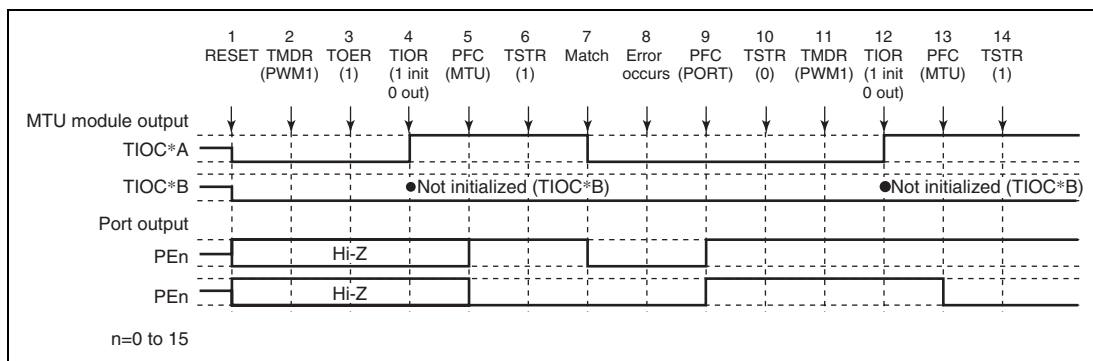

**Figure 11.92 Error Occurrence in PWM Mode 1, Recovery in PWM Mode 1**
**Operation when Error Occurs during PWM Mode 1 Operation, and Operation is Restarted in PWM Mode 1:** Figure 11.92 shows an explanatory diagram of the case where an error occurs in PWM mode 1 and operation is restarted in PWM mode 1 after re-setting.